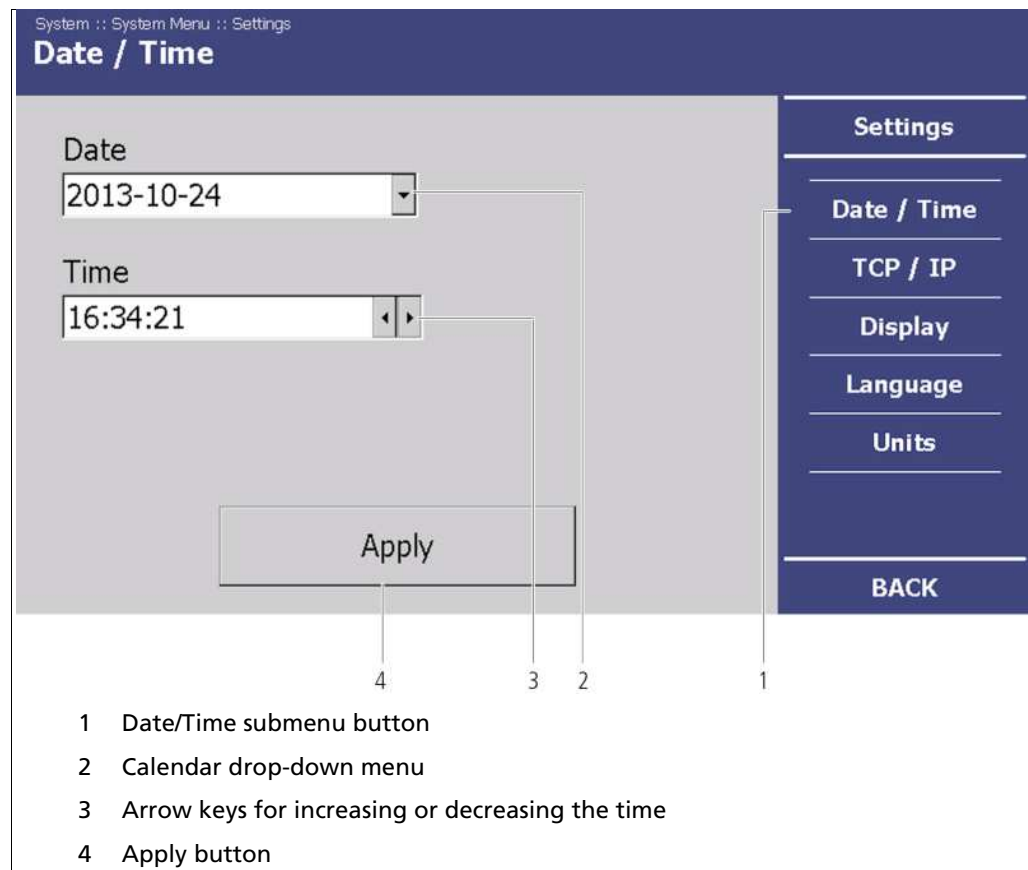

Fig. 24 System Menu, Settings - Date/Time
2. Click on the button drop-down menu (Fig. 24, Pos. 2), to change the date.